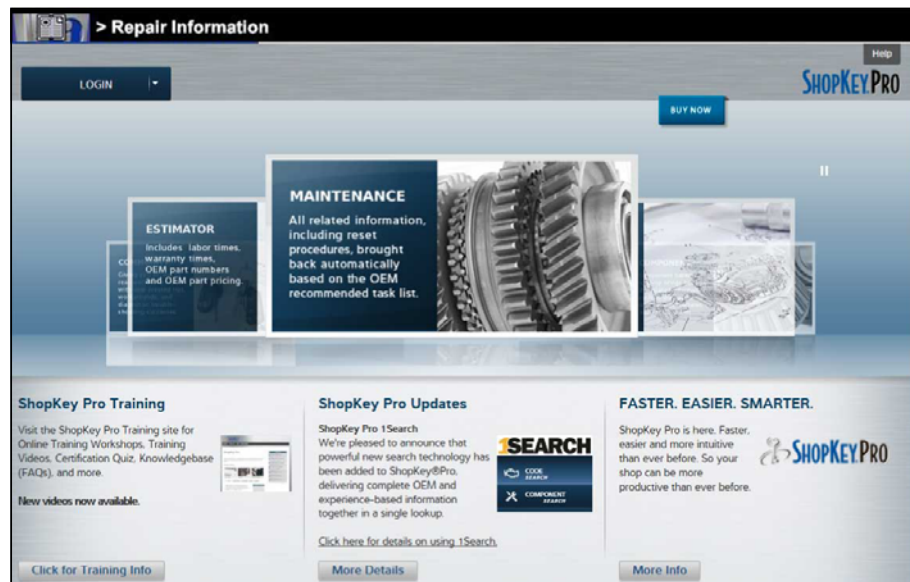

Figure 15-10 ShopKey Pro Login Screen
**Repair Information**—opens the ShopKey Pro website, See “Repair Information Operations” on page 113 for additional information (Figure 15-10).